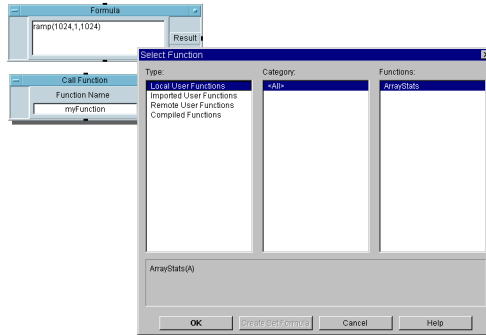

Figure 8-2. Configuring the Pins for Call myFunction
4. Click Device \Rightarrow Call, open the object menu, and click Select Function as shown in Figure 8-2. Then click OK. Notice that VEE renames the object automatically and adds the correct pins.